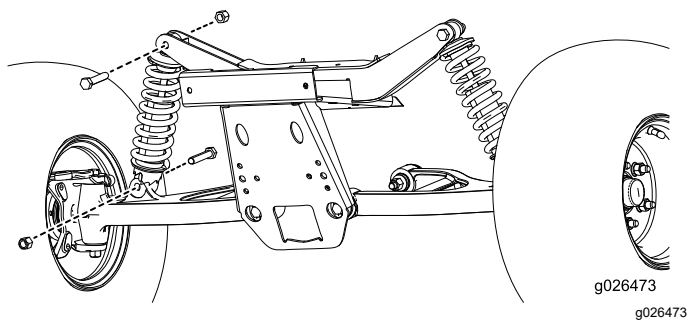

Figure 3
2. Remove the current shock assemblies as shown in Figure 3.